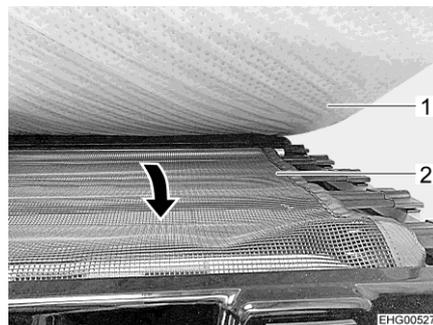

Fig. 41 Safety net
- Pull out the safety net (Fig. 41,2) from under the mattress (Fig. 41,1) and stretch it over the access orifice.